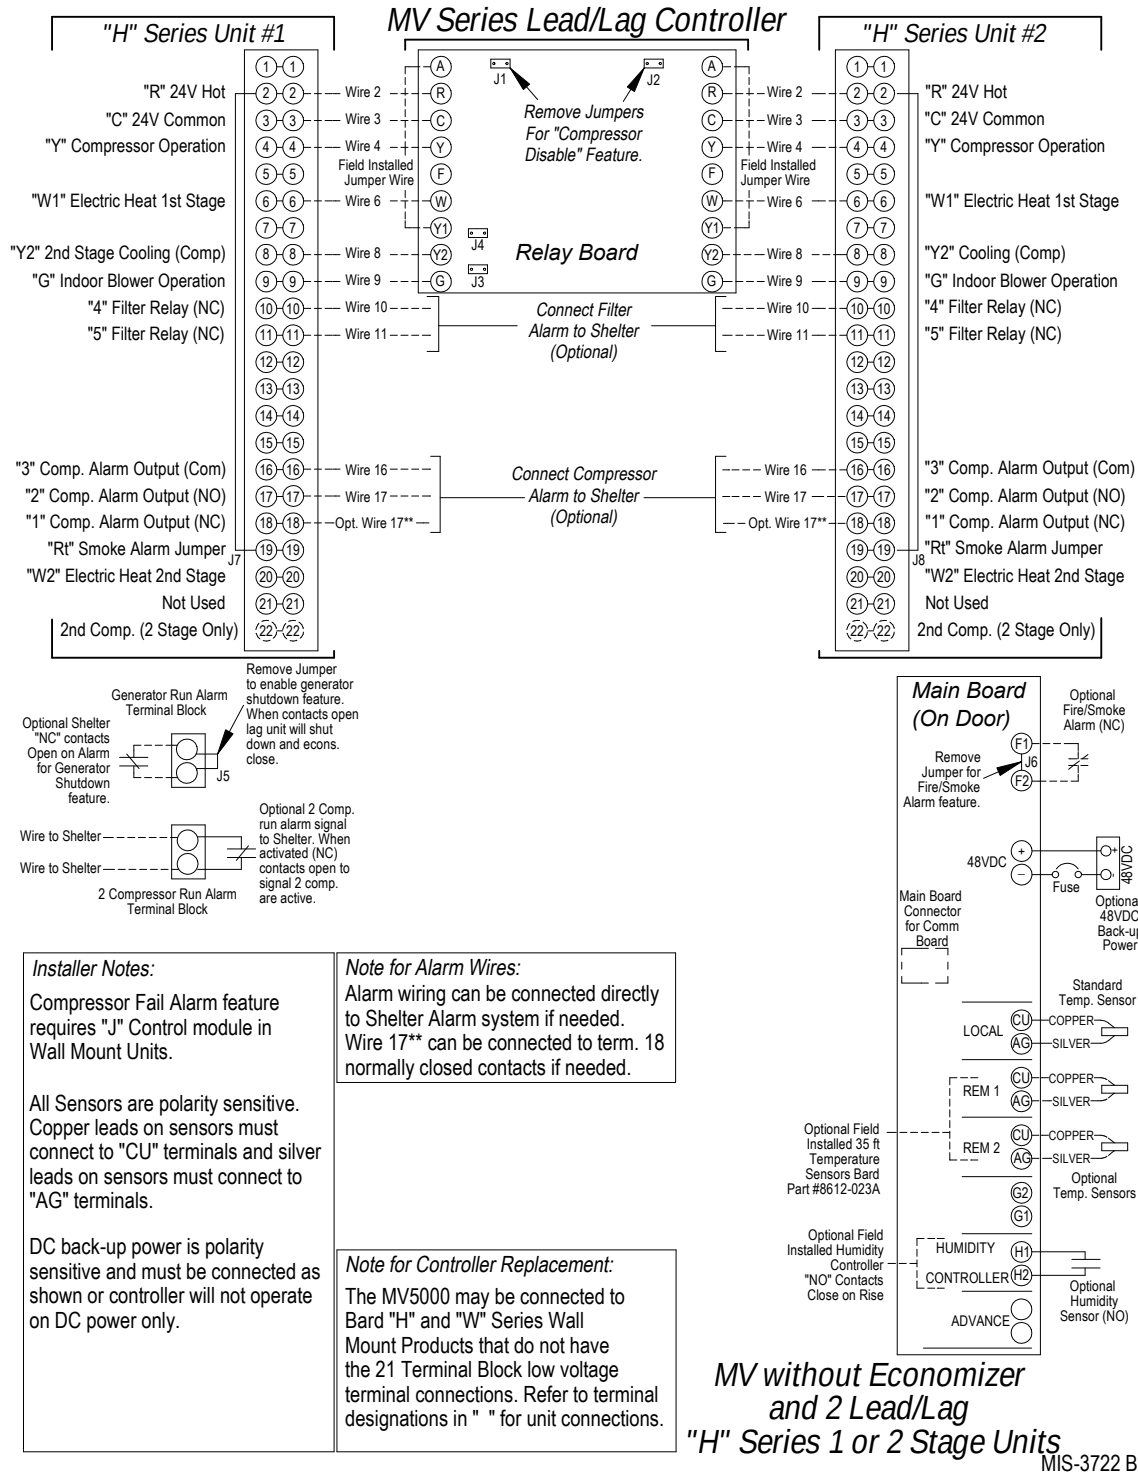

FIGURE 5
Use this diagram when connecting the MV Series controller to two (2) H Series 2-stage units without the economizer vent option. Compressor and filter alarm functionality is present when wired per Figure 5.